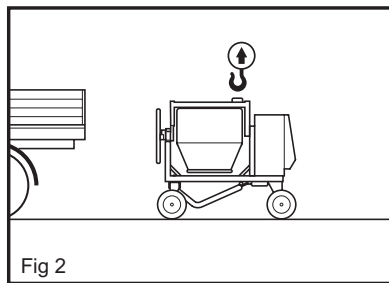

Fig 2
- To expose the lifting eye, turn the drum so it is facing down, (Fig 2).